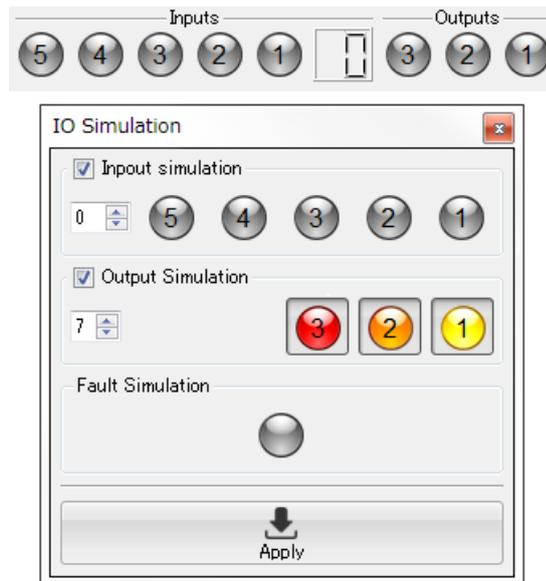

Figure 4.6-5 Display of IO lamps when IO Simulation with the input value is 0
- When the input value is 0 and output value is 1, IO Simulation cannot be done. Figure 4.6-5 displays is in such condition because laser is off in Area 0. During laser off state, area configuration cannot be configured and detection determination is not possible either.